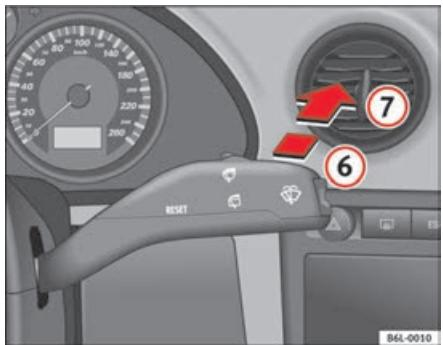

Fig. 68 Windscreen wiper and windscreen wash lever: rear window wiper
- Press the lever forwards to position 6 ⇒ fig. 68. The wiper will wipe the window approximately every 6 seconds.
- Press the lever fully forwards to position 7 ⇒ fig. 68. The rear wiper and washer operate at the same time. The windscreen wash system will function as long as you hold the lever in this position.